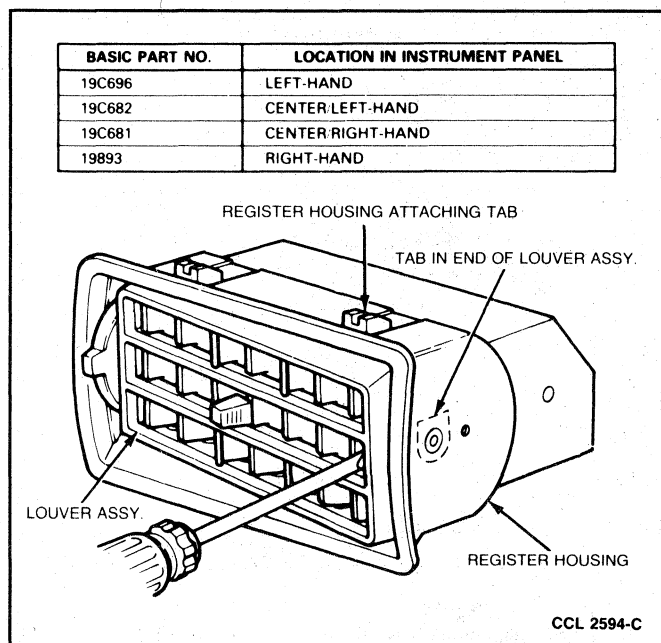

FIG. 22 Louver Assembly, Rectangular—Removal
1. Insert a flat-blade screwdriver under retaining tab and pry it toward louvers until retaining tab pivot clears hole in register opening (Fig. 22).
1. Remove louver assembly (Fig. 22).